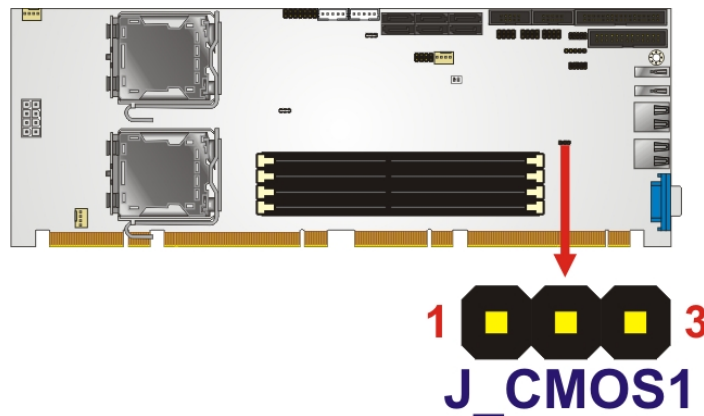

Figure 4-11: Clear CMOS Jumper
- Jumper Location:** See **Figure 4-11**
The location of the clear CMOS jumper is shown in **Figure 4-11** below.